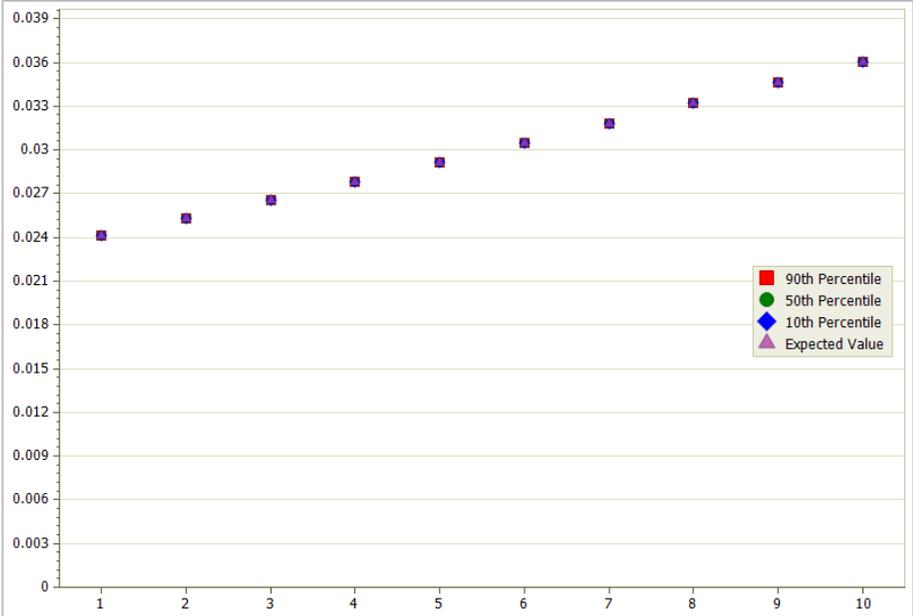

Figure 8-6. Time Series Percentiles Chart for Water Shortage Fault Tree
- ⇒ Press OK to generate the chart. The Time Series Percentile chart will appear as shown in Figure 8-6.
For each of the five time periods, this chart shows the range of possible values for total cost in that period. Contrast this chart with Figure 8-6 in the prior chapter, where the model was a deterministic fault tree and thus there was only a single possible value for each time period.